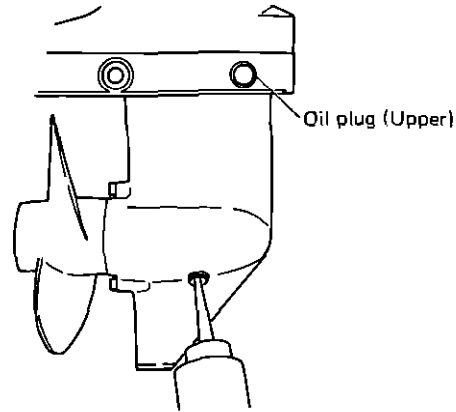

Fig. 29 Filling up the gear oil
- Insert the nozzle of an oil tube into the lower oil plug and inject oil by squeezing the tube until gear oil flows out of the upper plug. (Fig. 29)